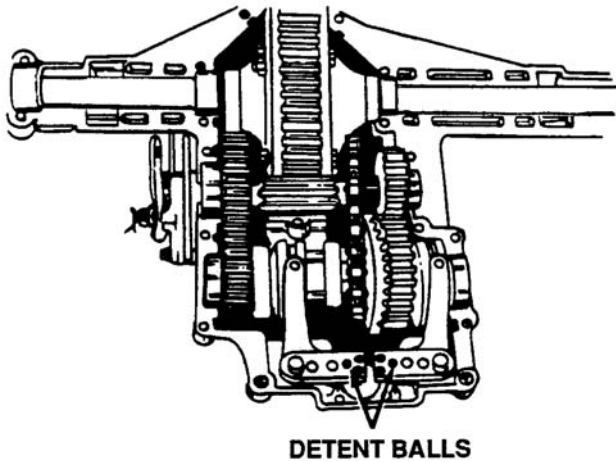

Figure 5-32. Location of Detent Balls
6. Remove the lower housing. Be sure to retain the four springs and detent balls. See Figure 5-32.